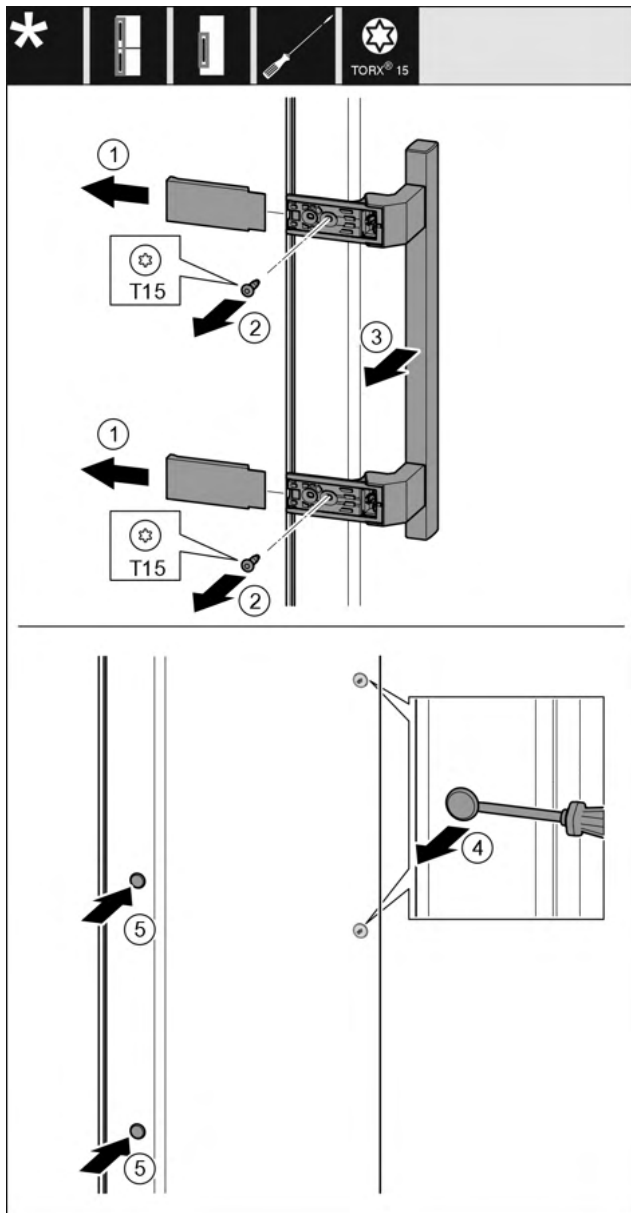

Fig. 38
- ▶ Pull off the cover Fig. 38 (1).
- ▶ Turn out the screws Fig. 38 (2) with the screw driver.
- ▶ Remove the handle Fig. 38 (3).
- ▶ Carefully lift the side plug Fig. 38 (4) with a slotted screwdriver and pull it out.
- ▶ Reinsert the plug Fig. 38 (5) on the other side.